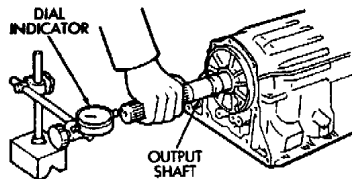

Fig. 40 Checking Output Shaft End Play
(48) Check output shaft end play with dial indicator (Fig. 40). End play should be .27 to 0.86 mm (.0106 to .0339 in).
(49) If output shaft end play is incorrect, one or more of installed components is not seated. Reassemble as necessary and check end play again.